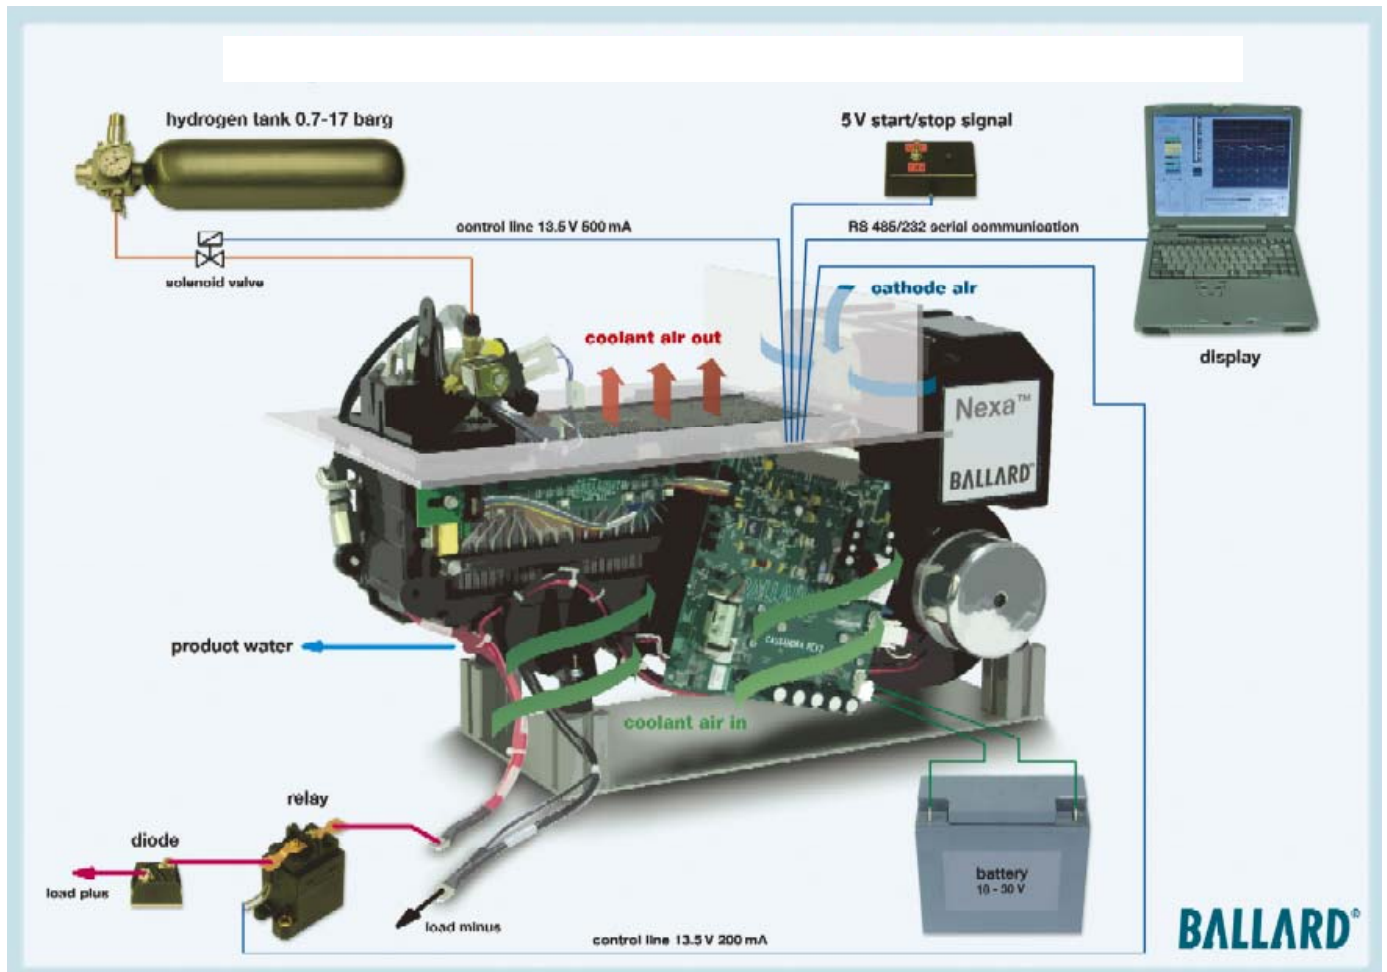

Figure 5: Installation of the Nexa™ power module
Figure 5 illustrates the basic installation of a Nexa™ power module in the lab and the mechanical, electrical and software interfaces necessary for operation. Before getting started, ensure that the following test lab criteria and installation procedures are satisfied:
- Install the Nexa™ power module onto a stand using the mounting feet, as shown in Figure 5.
- Provide a suitable supply of hydrogen. Connect the fuel supply to the hydrogen connection, as shown in Figure 5. Refer to the Interface Specifications for detailed fuel purity and connector specifications.
- Connect a 24 VDC battery to the Nexa™ control board, as shown in Figure 5. Alternatively, you may use a 24 VDC power-supply. Ensure the power supply is capable of at least 6 amps to support current surges on system start-up. Refer to the Interface Specifications for detailed installation and connector specifications.
- Install a load relay on the positive output terminal of the fuel cell stack to prevent premature power draw from the Nexa™ module. Connect the load relay control signal to the Nexa™ serial communication port, as shown in Figure 5. Make sure to test the load relay is working properly before operating the system. Refer to the Interface Specifications for connection details.
- Connect a blocking diode on the positive output terminal of the fuel cell stack, as shown in Figure 5, to prevent applying reverse potential to the fuel cell stack by a battery or some other DC power module integration.
- Provide a 5 V start signal to the Nexa™ serial communication port, as shown in Figure 5. Refer to the Interface Specifications for connection details.